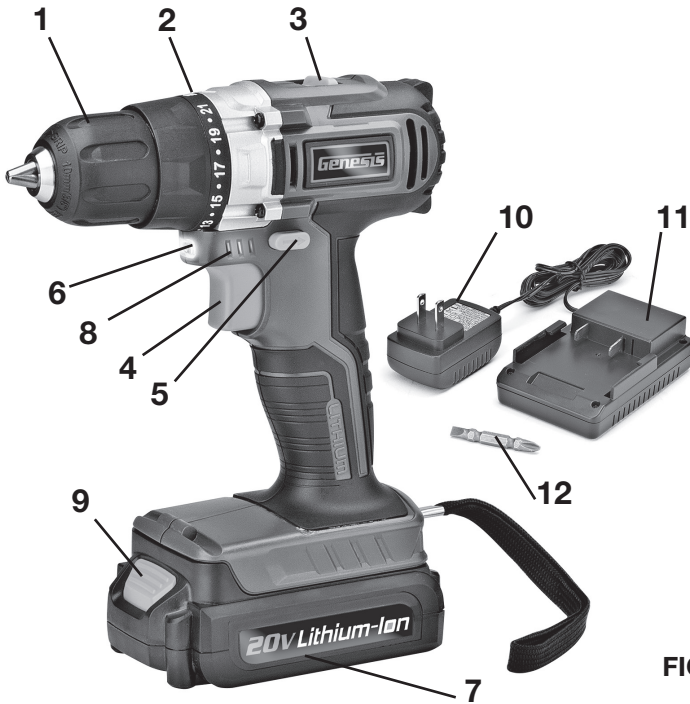

FIG 1
- Turn the drill on by depressing the trigger switch (4-FIG 1).
- Use the reversing switch (5-FIG 1) to change the direction of rotation of the drill.
Your tool has a built-in LED work light (6-FIG 1) to illuminate the work area. When you turn on the tool, the work light will automatically turn on.
Your tool has a built-in battery power indicator (8-FIG 1) right above the trigger switch. It has three colored lights—Green, Yellow and Red. Depress the trigger switch slightly to check the battery power level. When all three lights illuminate, it indicates the battery is at full power. The battery is at half full power when only the yellow and red lights illuminate. When the red light illuminates only, it indicates that the battery is at low power level and requires immediate charging.
- Set the clutch ring (2-FIG 1) to settings from 1 (lightest) to 22 (heaviest). Setting 22 (⚡) is direct drive (torque is not limited) and used primarily for drilling operations.